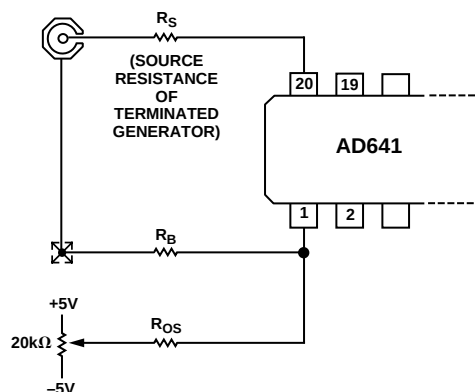

Figure 25. Optional Input Offset Voltage Nulling Circuit; See Text for Component Values
In most applications there will be no need to use any offset adjustment. However, a general offset trimming circuit is shown in Figure 25.  $R_S$  is the source resistance of the signal. *Note: 50  $\Omega$  rf sources may include a blocking capacitor and have no dc path to ground, or may be transformer coupled and have a near zero resistance to ground.* Determine whether the source resistance is zero, 25  $\Omega$  or 50  $\Omega$  (with the generator terminated in 50  $\Omega$ ) to find the correct value of bias compensating resistor,  $R_B$ , which should optimally be equal to  $R_S$ , unless  $R_S = 0$ , in which case use  $R_B = 5\text{ }\Omega$ . The value of  $R_{OS}$  should be set to 20,000  $R_B$  to provide a  $\pm 250\text{ }\mu\text{V}$  trim range. To null the offset, set the source voltage to zero and use a DVM to observe the logarithmic output voltage. Recall that the LOG OUT current of the AD641 exhibits an *absolute value response* to the input voltage, so the offset potentiometer is adjusted to the point where the logarithmic output "turns around" (reaches a local maximum or minimum).
R4 is identical to R2, and in shunt with R3 (270  $\Omega$  thin film) forms a 27  $\Omega$  resistor with the same TC as the output resistance of the attenuator. By connecting Pin 1 to ATN LOW (Pin 2) this resistance minimizes the offset caused by bias currents. The offset nulling scheme shown in Figure 25 may still be used, with the external resistor RB omitted and ROS = 500 k $\Omega$ . Offset stability is improved because the compensating voltage introduced at Pin 20 is now PTAT. Drifts of under 1  $\mu\text{V}/^\circ\text{C}$  (referred to Pins 1 and 20) can be maintained using the attenuator.
Cascaded AD641s can be used in dc applications, but input offset voltage will limit the dynamic range. The dc intercept is 6  $\mu$ V. *The offset should not be confused with the intercept*, which is found by *extrapolating* the transfer function from its central “log linear” region. This can be understood by referring to Equation (1) and noting that an input offset is simply additive to the value of  $V_{IN}$  in the numerator of the logarithmic argument; it does not affect the denominator (or intercept)  $V_X$ . In dc coupled applications of wide dynamic range, special precautions must be taken to null the input offset and minimize drift due to input bias offset. It is recommended that the input attenuator be used, providing a practical input range of  $-74$  dBV ( $\pm 200$   $\mu$ V dc) to  $+6$  dBV ( $\pm 2$  V dc) when nulled using the adjustment circuit shown in Figure 25.